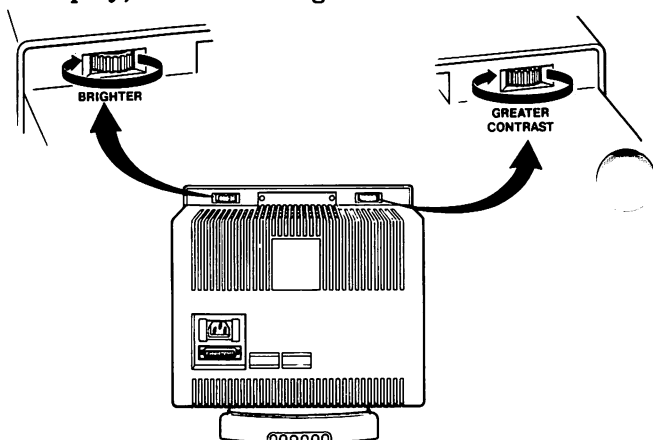
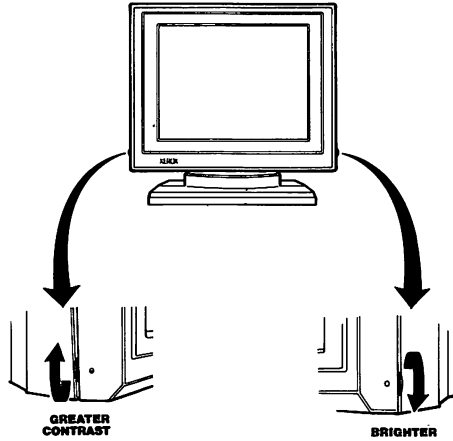

Figure 5-7. Brightness and contrast controls located at the back of the unit
Fig. 5-8. Brightness and Contrast Controls located at the sides of the unit
- If you have a partial page monochrome display, they will be located at the back of the display, as shown in Fig. 5-7.
- If you have a color display, they will either be located at the back of the display, as shown in Fig. 5-7, or on the sides of the display, as shown in Fig. 5-8.